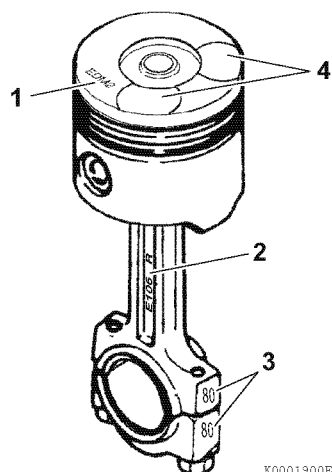

Figure 6-97
- The piston and connecting rod must be installed with the correct orientation. When installed correctly, the identification mark (1, **Figure 6-97**) stamped into the top of the piston will face the open side of the crankcase. The connecting rod match marks (3, **Figure 6-97**) and the piston valve pockets will face the injection pump side of the engine.
5. Carefully install the piston and rod assembly. The identification marks stamped into the top of the piston (1, **Figure 6-97**) and connecting rod beam (2, **Figure 6-97**) will be facing the open side of the crankcase. The connecting rod match marks (3, **Figure 6-97**) and the piston valve pockets (4, **Figure 6-97**) will face the injection pump side of the engine.